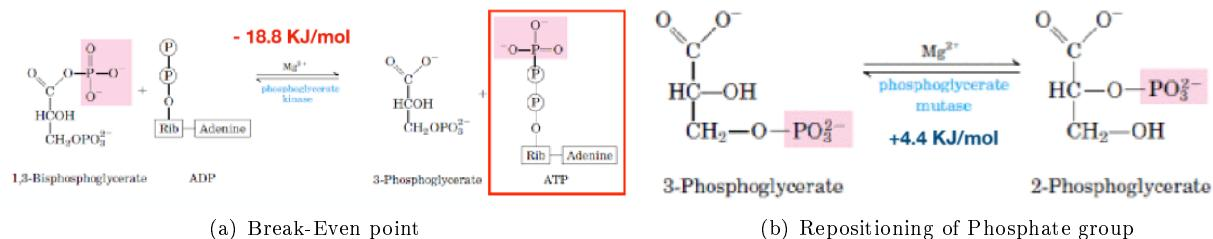

Figure 9: Step7 and Step8
Step7 is the **break-even point**. 1, 3-BPG is used as a phosphate doner to ADP. This reaction is catalyzed by **glycerophosphate kinase** and produces 3-Phosphoglycerate and ATP. (see fig. 9(a))